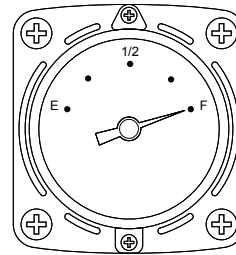

Figure 10. Full Fuel Tank
3. Monitor the fuel gauge while filling fuel tank. Stop filling when the fuel gauge indicates full (Figure 10). **DO NOT** wait for fuel to rise in filler neck.